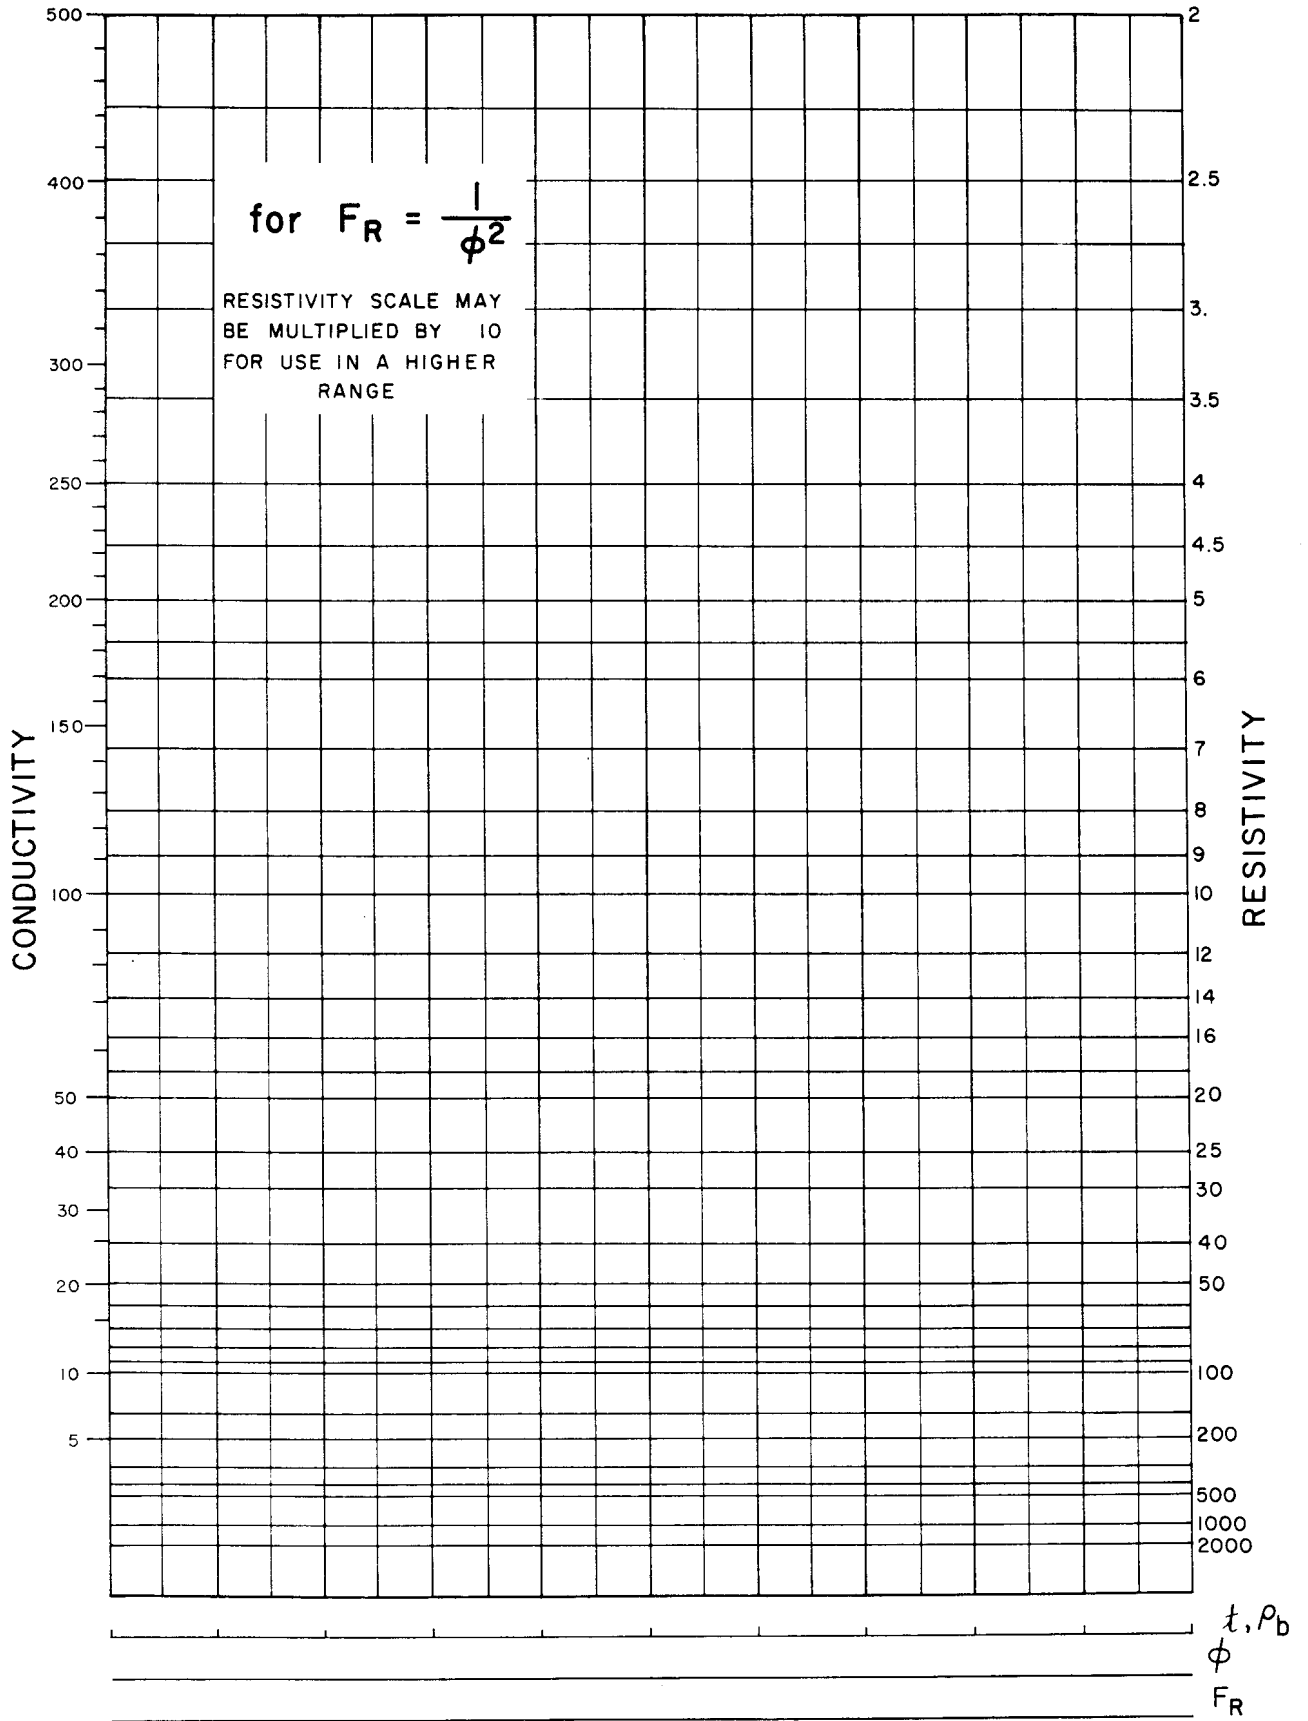

figure 3
- Plot resistivity versus porosity on the $m = 2$ grid paper (Figure 3).